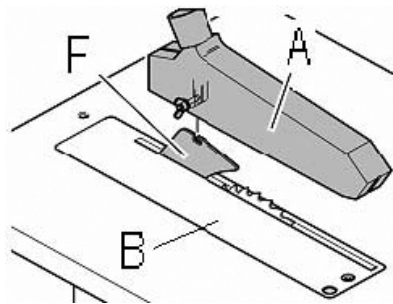

Fig. 16
The saw guard must always be used. Attach the saw guard (A, Fig 16) to the raving knife (F) with 1 carriage bolt, washer and wing nut.